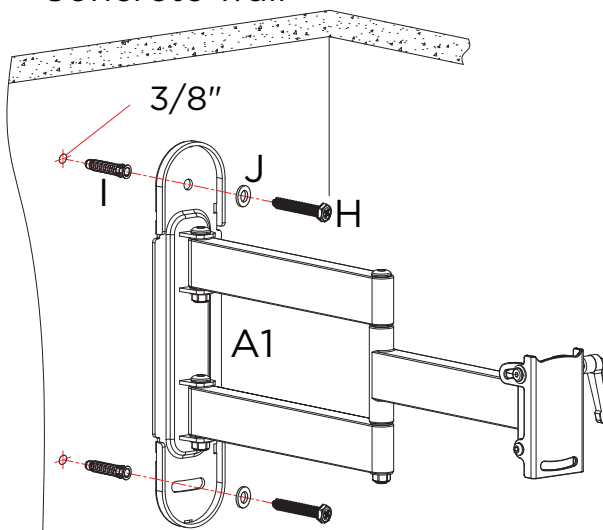

Figure 2 (keep the wall plate level)
**Step 2:** Please remove the plaster board on the surface of the concrete wall when assembling the mount on a concrete wall. Hold wall plate (A1) against wall at the desired position on the concrete wall, then using a pencil, mark 2 hole locations. Then drill holes at the pencil marks using a 3/8" size drill bit to a depth of 2.5". Insert wall anchors (I) into the holes (you may need to use hammer to lightly tap the wall anchors into the wall). Then fix wall plate (A1) to the wall with screws (H) and washers (J). (Figure 2)